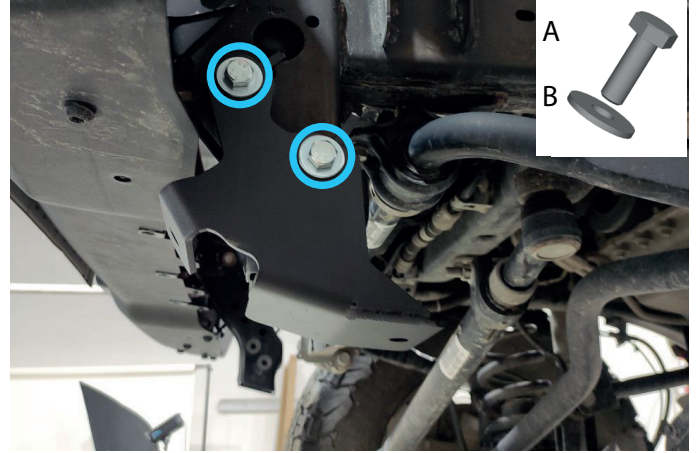

Fig. 5
6. Fix mounting bracket left JL/JT (item 4) using bolts M10x30 (item A) and washers 10 (item B), as shown in fig.5.